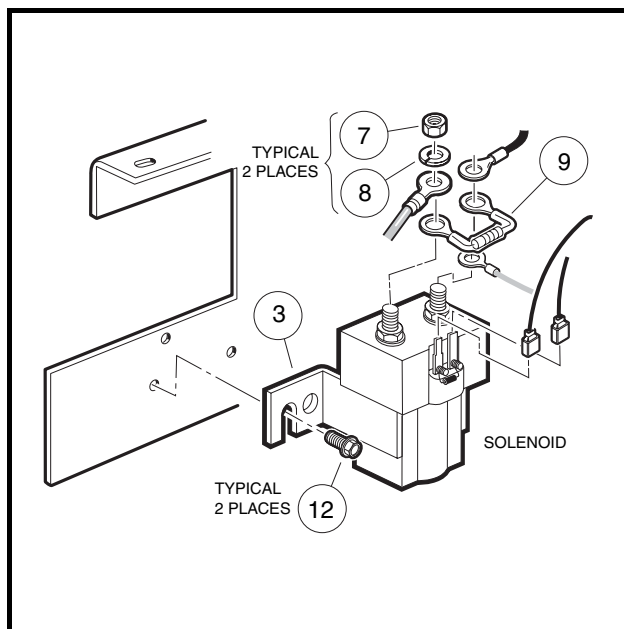

Figure 13-5 Solenoid
3. Disconnect all wires from the solenoid (3) (**Figure 13-5, Page 13-7**).
4. Loosen, but do not remove, the two screws (12) that hold the solenoid (3) to the component mounting plate.
5. Lift the solenoid (3) up and off of the component mounting plate.
1. Mount solenoid (3) onto component mounting plate with screws (12) (**Figure 13-5, Page 13-7**).
2. Tighten screws (12) to 60 in-lb (6.8 N·m).
3. Using the wiring diagram, install the wires, resistor (9), washers (8), and nuts (7) onto the large mounting posts. Tighten nuts to 77 in-lb (8.7 N·m). **See Wiring Diagram, Section 11, Page 11-11.**
4. Install the blue/white and light blue wires onto the small terminals of the solenoid (**Figure 13-5, Page 13-7**).